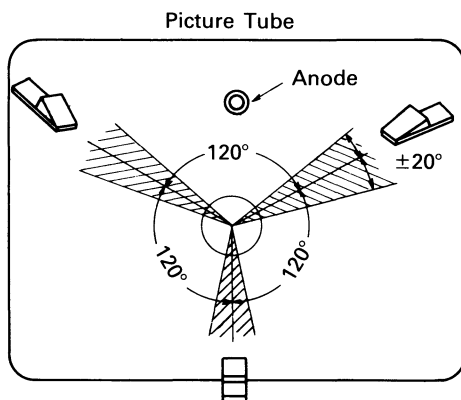

Fig. 11
- 4) Push the three rubber wedges between the picture tube cone and the deflection yoke at the positions indicated in Fig. 11.